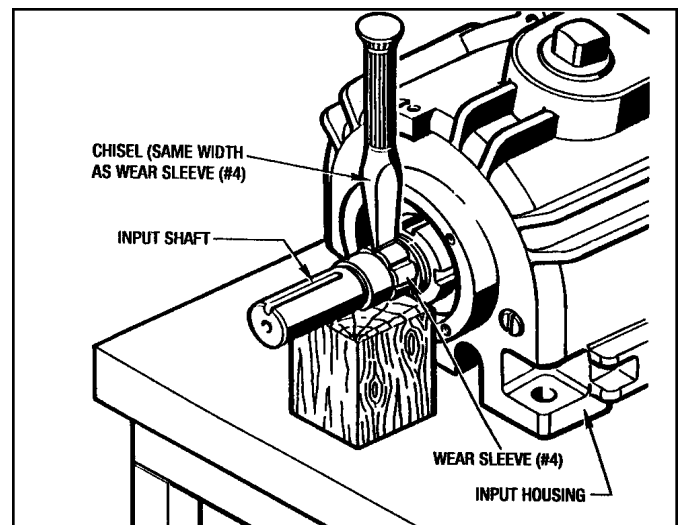

Figure 7.2 - Wear Sleeve Removal (#11 and 14 Posidyne)
2. Remove (6) Screws (#63) and remove Bearing Retainer (#7), taking care not to damage the lip of the Oil Seal (#31).
5. Remove the Wear Sleeve (#4). **See 7-12 WEAR SLEEVE REMOVAL PROCEDURE. (Figure 7.2)**
3. Remove (6) Screws (#63) and remove the Bearing Retainer (#7), taking care not to damage the lip of the Oil Seal (#31).
5. If the Wear Sleeve (#250) needs to be replaced see **Section 7-12 WEAR SLEEVE REMOVAL PROCEDURE. (Figure 7.2)**
1. With a chisel the same width as the Wear Sleeve (#4), make about 5 or 6 notches in the Sleeve parallel to the Input Shaft. (See Figure 7.2)